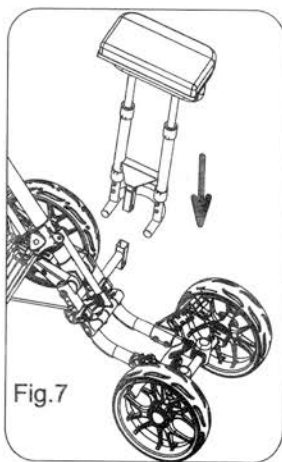

Fig.7
5. The seat is on the frame as Fig.7